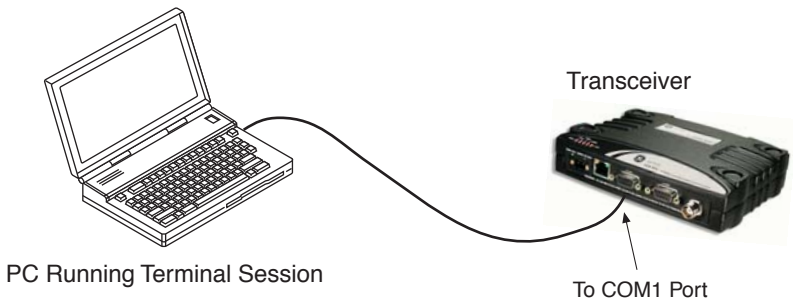

Figure 6. PC Configuration Setup
- a. Connect a PC to the transceiver's DB-9 COM1 connector as shown in Figure 6. A straight-through cable may be used in most applications. If desired, a cable may be built using the information shown on Page 12 of this guide.